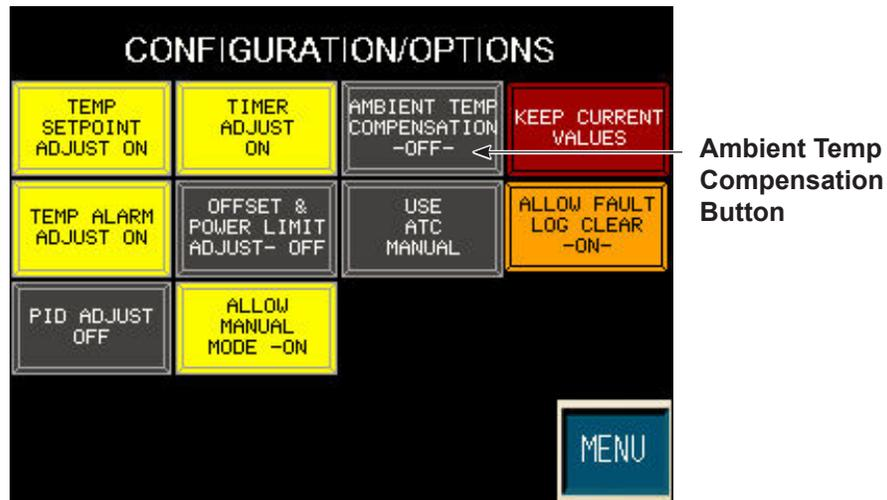

Figure 18 Ambient Temp Compensation Button
2. See Figure 18. Select the **Ambient Temp Compensation** button.